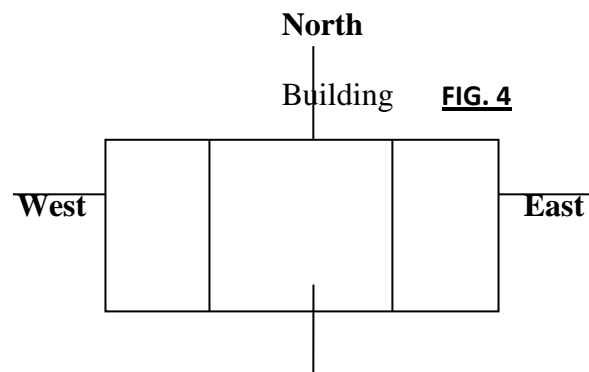

FIG. 4
- (iii) To protect the building from sun and rain, sunshades are required for window facing the east, west and south (**FIG. 4**)